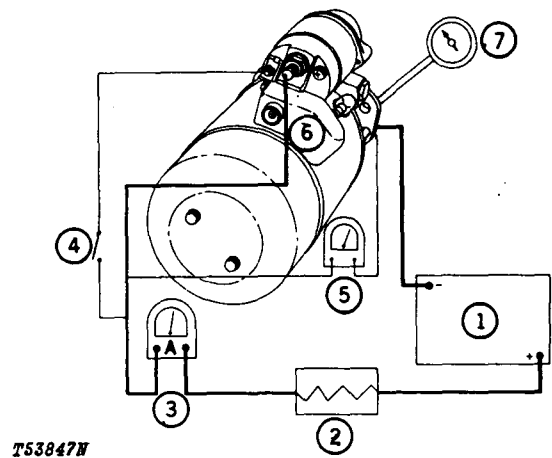

Fig. 31-No Load Test Circuit (After Assembly)
Connect a fully charged 12-volt battery (1) with a reserve capacity rating of 290 min., rheostat (2), ammeter (3), control switch (4), voltmeter (5), and tachometer (7) to the starting motor as shown in (Fig. 31).
Connect to solenoid (5, Fig. 31) terminal (1) the positive battery cable (1), the solenoid to starting circuit relay (6) and the solenoid to alternator output terminal (2). Connect the solenoid to starting circuit relay (3) to the 5 terminal.